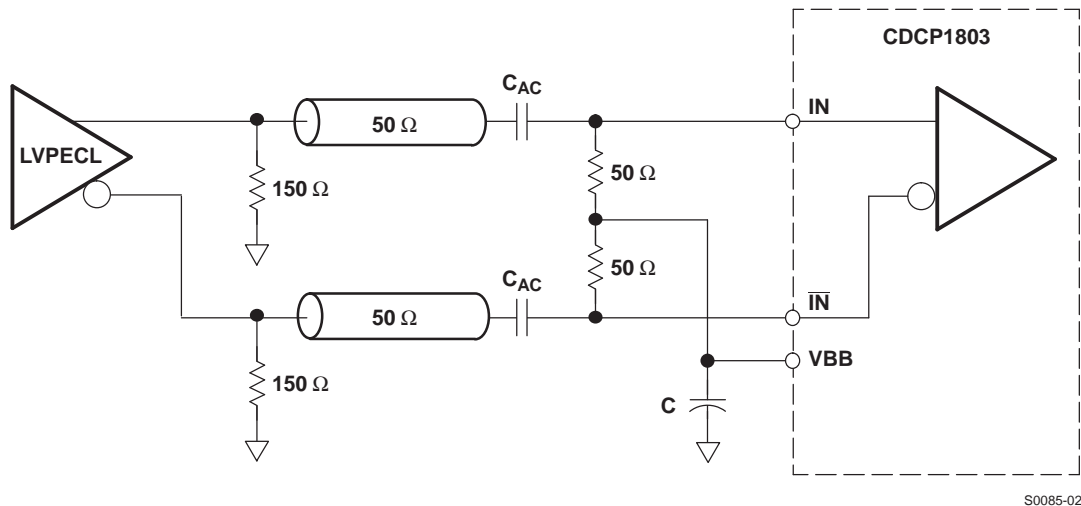

Figure 9. Recommended AC-Coupling LVPECL Receiver Input Termination
For optimized noise performance, it is recommended to properly terminate the PCB trace (transmission line). If a differential signal drives the CDCP1803, then a 100- Ω termination resistor is recommended to be placed as close as possible across the input terminals. An even better approach is to install $2 \times 50\text{-}\Omega$ resistors, with the center tap connected to a capacitor (C) to terminate odd-mode noise and make up for transmission line mismatches. The VBB output can also be connected to the center tap to bias the input signal to $(V_{DD} - 1.3\text{ V})$ (see Figure 9).